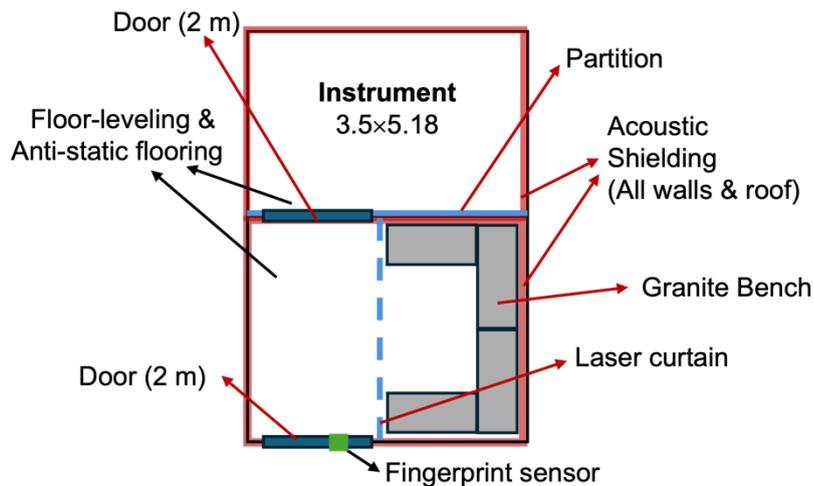

Figure 6. The layout of Room 5 (Ground Floor, D048)
D. Room 5 (Ground Floor, D048) – Diagram in Figure 6